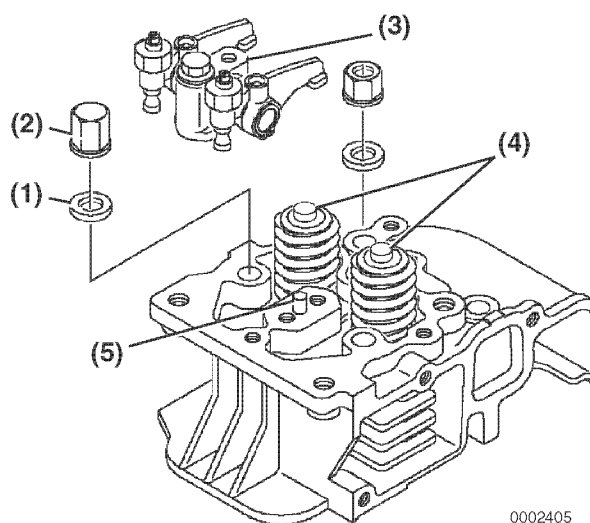

Figure 6-22
Note: Install the cap nuts **(Figure 6-22, (2))** on the studs that will be covered by the rocker arm cover.
5. Lightly oil the threads of the cylinder head studs. Install the washers **(Figure 6-22, (1))** and nuts. Tighten to the specified torque in two steps as shown in the chart below. Tighten in an "X" pattern. See *Special Torque Specifications on page 6-18* for torque values.
7. Place the valve caps **(Figure 6-22, (4))** on the valve stem tips.
8. Install the rocker arm shaft assembly **(Figure 6-22, (3))**. Be sure the alignment pin **(Figure 6-22, (5))** is in place.